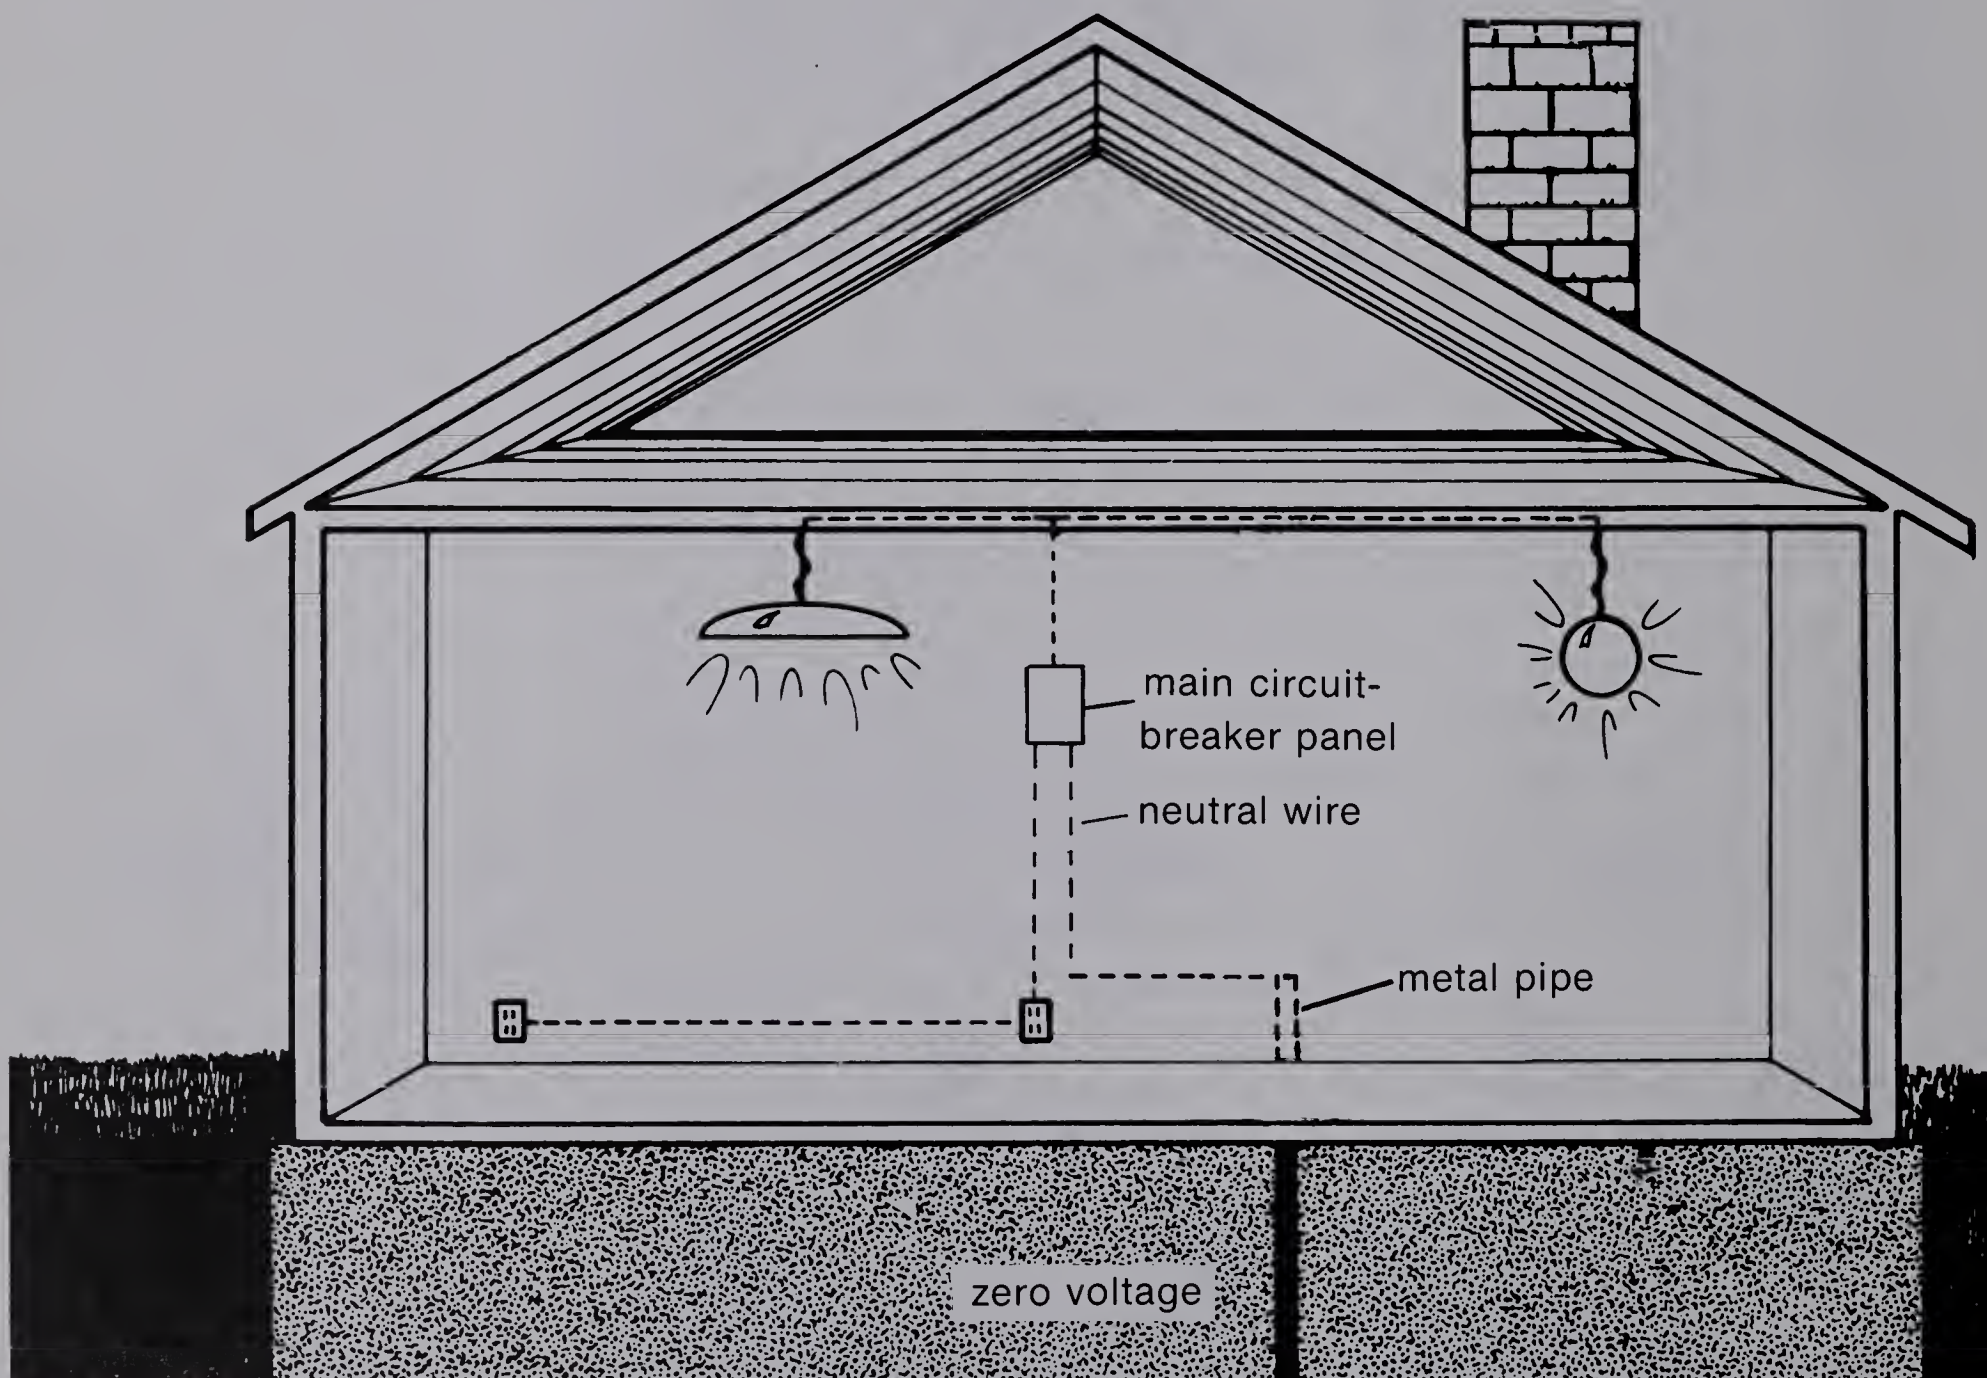

Figure 3-1
- 3-7. Look at Figure 3-1. Tell how the neutral wires in circuits are usually grounded.